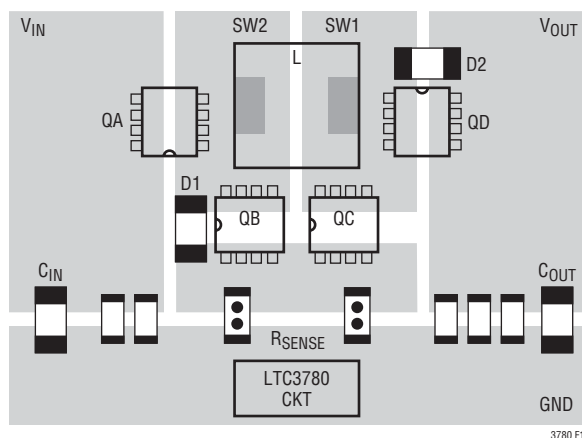

Figure 10. Switches Layout
- Place  $C_{IN}$ , Switch A, Switch B and D1 in one compact area. Place  $C_{OUT}$ , Switch C, Switch D and D2 in one compact area. One layout example is shown in Figure 10.